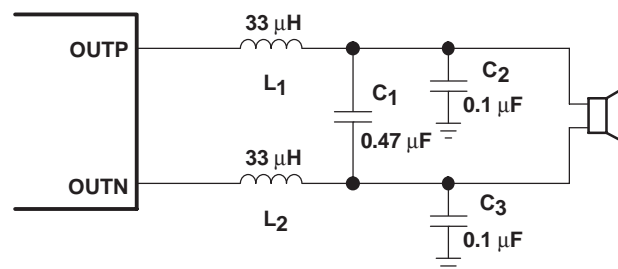
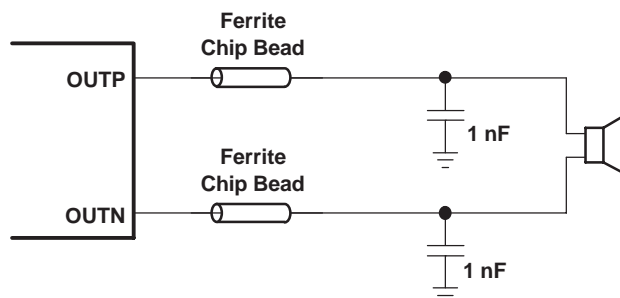

Figure 33. Typical LC Output Filter, Cutoff Frequency of 27 kHz, Speaker Impedance = 8 Ω
Figure 34. Typical Ferrite Chip Bead Filter (Chip bead example: Fair-Rite 2512067007Y3)
- Output filter — The ferrite EMI filter (Figure 34) should be placed as close to the output terminals as possible for the best EMI performance. The LC filter (Figure 33) should be placed close to the outputs. The capacitors used in both the ferrite and LC filters should be grounded to power ground.